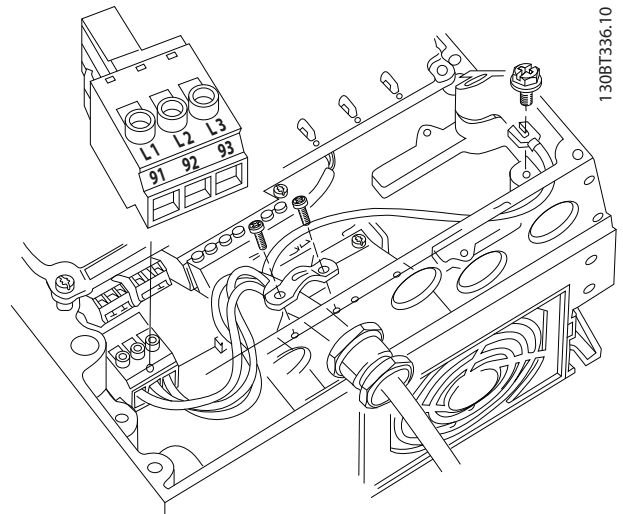

Fig. 18 — Connecting to AC Mains
1. Connect 3-phase AC input power wiring to terminals L1, L2, and L3 (see Fig. 18).